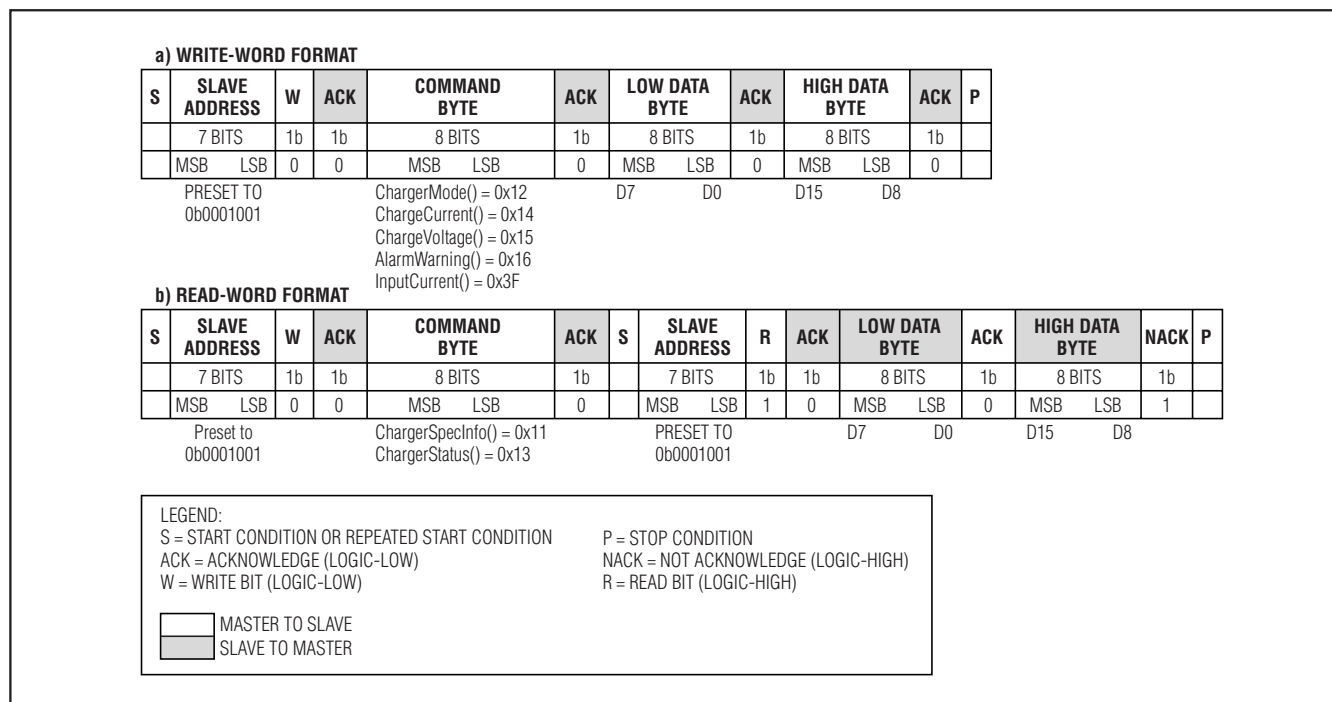

Figure 3. SMBus Write-Word and Read-Word Protocols
To set the charge current, use the SMBus to write a 16-bit ChargeCurrent() command using the data format listed in Table 2. The ChargeCurrent() command uses the Write-Word protocol (see Figure 3). The command code for ChargeCurrent() is 0x14 (0b00010100). When $RS2 = 10m\Omega$, the MAX8731A provides a charge current range of 128mA to 8.064A, with 128mA resolution. Set ChargeCurrent() to 0 to terminate charging. Upon reset, the ChargeVoltage() and ChargeCurrent() values are cleared and the charger remains off until both the ChargeVoltage() and the ChargeCurrent() commands are sent. Both DHI and DLO remain low until the charger is restarted.
To set the input current limit, use the SMBus to write a 16-bit InputCurrent() command using the data format listed in Table 3. The InputCurrent() command uses the Write-Word protocol (see Figure 3). The command code for InputCurrent() is 0x3F (0b00111111). When $RS1 = 10\text{m}\Omega$, the MAX8731A provides an input-current-limit range of 256mA to 11.004A, with 256mA resolution. InputCurrent() settings from 1mA to 256mA result in a current limit of 256mA. Upon reset the input current limit is 256mA.
The MAX8731A receives control inputs from the SMBus interface. The MAX8731A uses a simplified subset of the commands documented in System Management Bus Specification V1.1, which can be downloaded from www.smbus.org. The MAX8731A uses the SMBus Read-Word and Write-Word protocols (Figure 3) to communicate with the smart battery. The MAX8731A performs only as an SMBus slave device with address 0b0001001_ (0x12) and does not initiate communication on the bus. In addition, the MAX8731A has two identification (ID) registers (0xFE): a 16-bit device ID register and a 16-bit manufacturer ID register (0xFF).